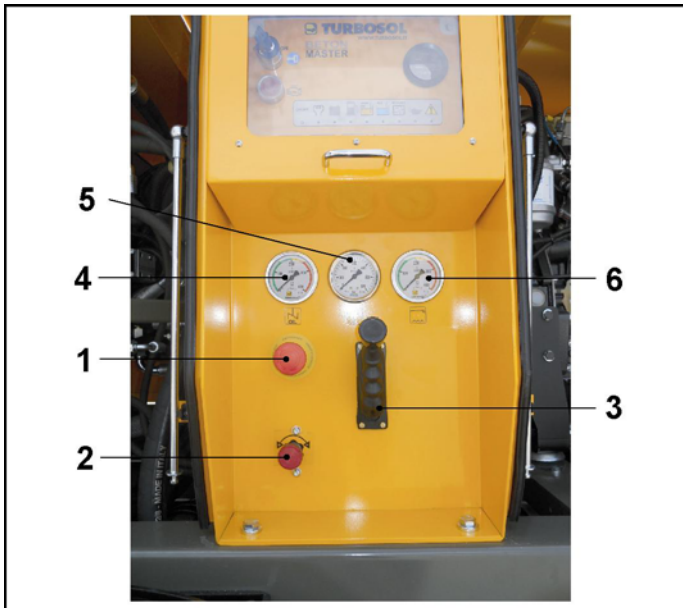

FIG.28
- Check the emergency button (FIG.28-REF.1) is not engaged.